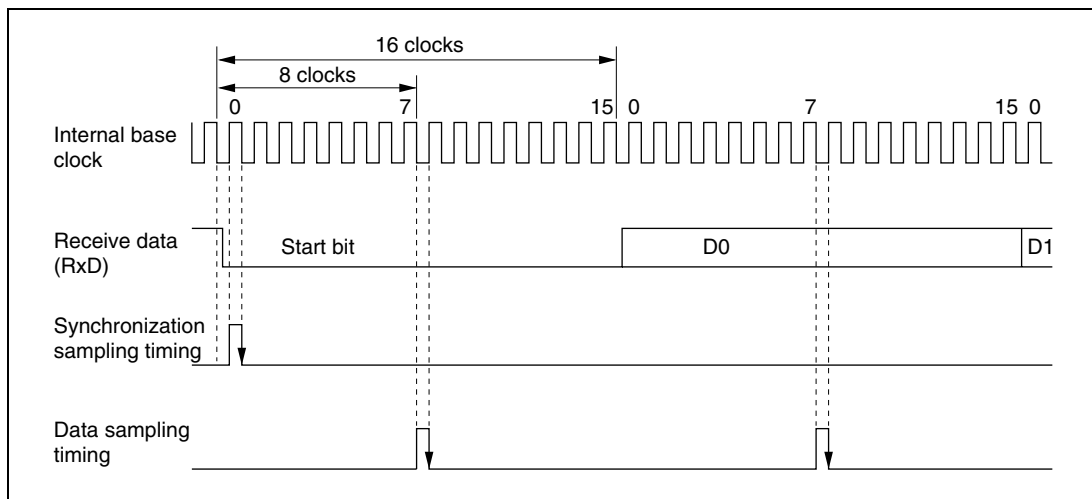

Figure 13.3 Receive Data Sampling Timing in Asynchronous Mode
In asynchronous mode, the SCI operates on a basic clock with a frequency of 16 times the bit rate. In reception, the SCI samples the falling edge of the start bit using the basic clock, and performs internal synchronization. Receive data is latched at the middle of each bit by sampling the data at the rising edge of the 8th pulse of the basic clock as shown in figure 13.3. Thus the reception margin in asynchronous mode is given by formula (1) below.